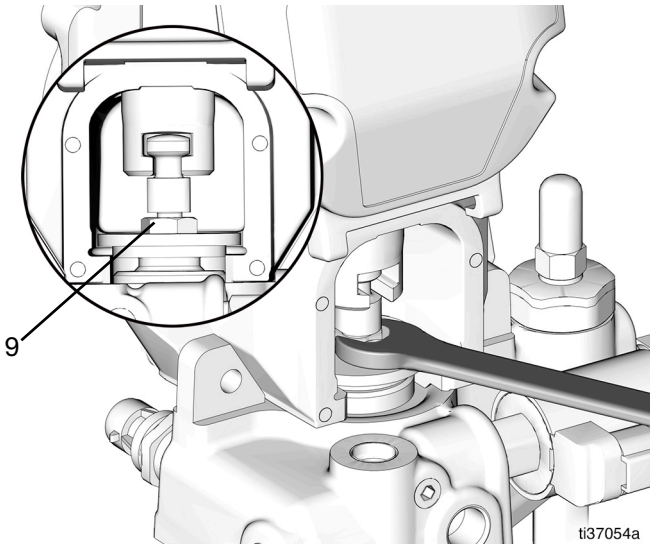

FIG. 33
- Remove the protective cover (8).
- Loosen the retaining nut (9) with a 5/8 in. open wrench (FIG. 33).